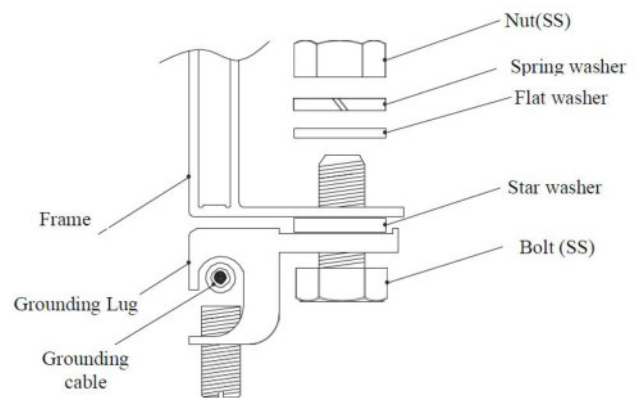

Figure 8
- The grounding bolts must be made of stainless steel and be used in the specified grounding holes. First, make the stainless steel bolt pass through the spring washer, cup washer, flat washer, and star washer, and then insert through the grounding hole, flat washer and spring washer on the frame. Finally, tighten with a nut. Caution: The upper limited temperature of the conductor is 85°C. As for the installation, refer to Figure 8.